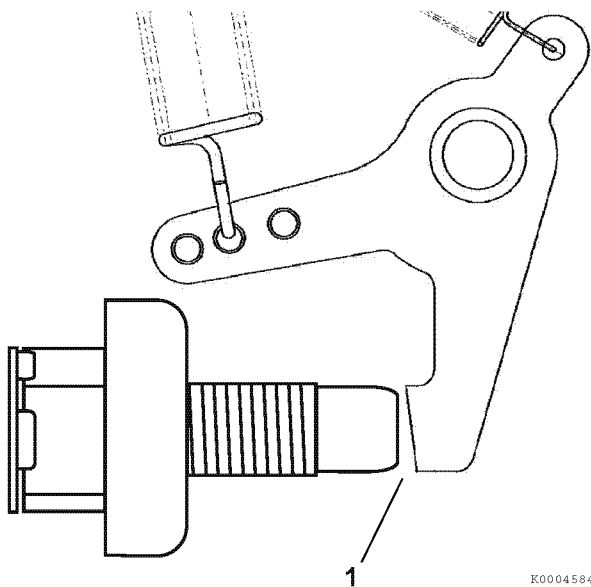

Figure 7-26
10. Rotate the speed control lever fully clockwise until it stops. Before proceeding, check that the tip of the fuel limiter is not touching the control lever (1, **Figure 7-26**).